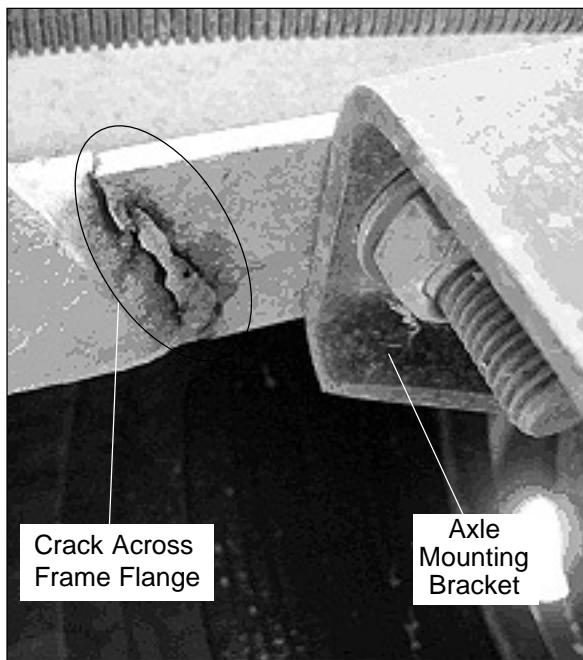

Figure 4 — Cracks Across The Bottom Of The Frame
5. Inspect each side of the frame near the fender mounting points for evidence of cracks (refer to Figure 4).